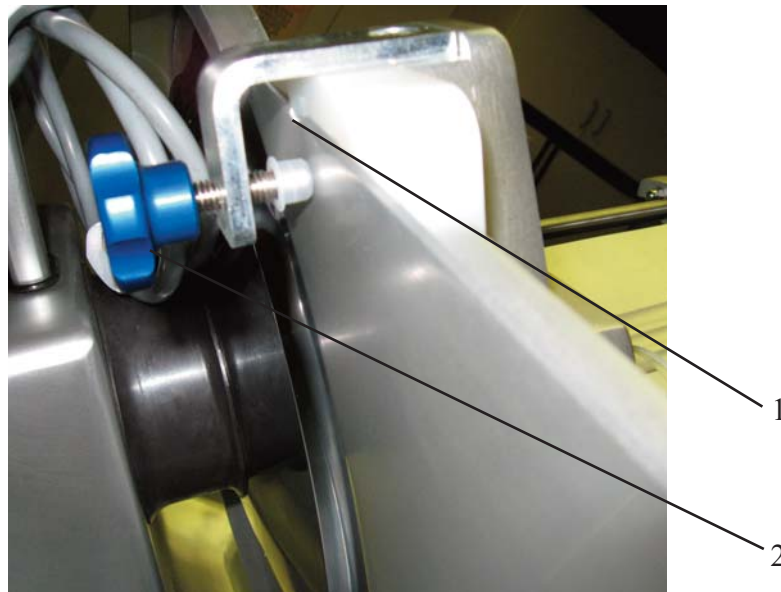

FIGURE 6
3. Pull the carriage all the way back towards the front of the slicer. Lift the last slice device (Figure 1 [12]) all the way up and rotate it into the stored position. Loosen the sharpener mounting knob (Figure 6 [2]). Lift the sharpener assembly (Figure 17) and place it on the fence with the body of the sharpener on the right side of the fence and the mounting knob (Figure 6[2]) on the left side of the fence.
5. Slide the carriage toward the blade until the plastic guide of the sharpener (Figure 6 [1]) drops into the notch on the top of the fence. The plastic guide should now be resting flush with the top edge of the fence (the carriage should be moved slightly so that it is not touching the sharpener body). Tighten the knob (Figure 6 [2]) until the sharpener is secure to the fence. Do not over-tighten.